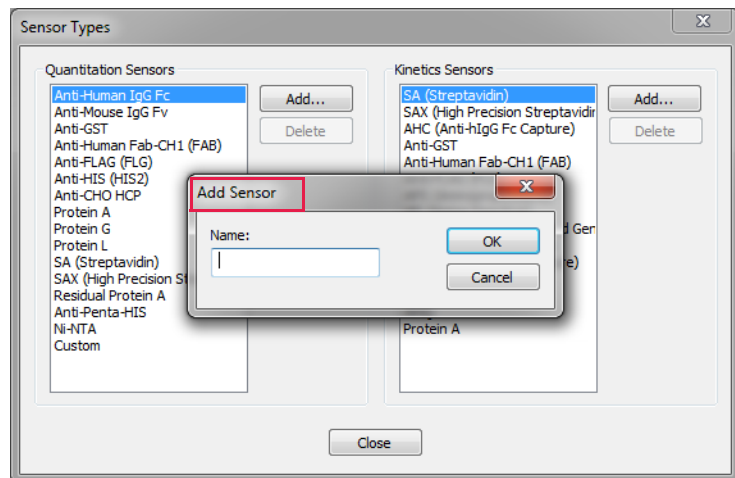

Figure 2-28: Adding a Biosensor Type
2. In the **Sensor Types** window (Figure 2-28), click **Add** next to the **Quantitation Sensors** or **Kinetic Sensors** box (depending on the type of biosensor that will be added).